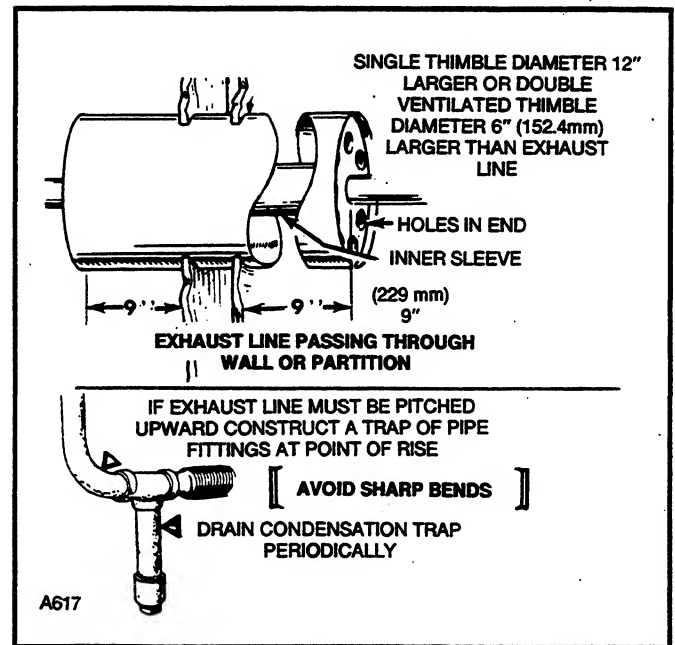

FIGURE 3-3. EXHAUST PIPING DETAILS
- Route the pipe at least 9 in. from combustible construction and fuel lines. Use an approved thimble to maintain the clearance through walls (Figure 3-3).